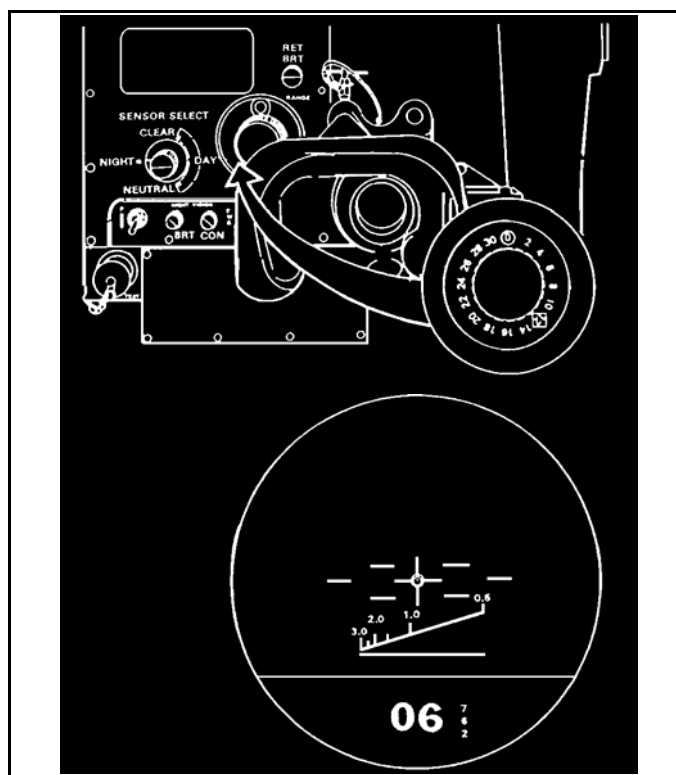

Figure 4. Range control knob and status indicator.
4. The Bradley commander finds the range of the target using the range finder in the reticle and announces the range to the gunner—for example, “Six hundred” (Figure 4).